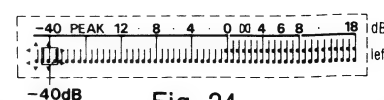

Fig. 24
6. At this time, check that -40dB indicator is dimmed (intermediate brightness between full brightness and light-out: See fig. 24).